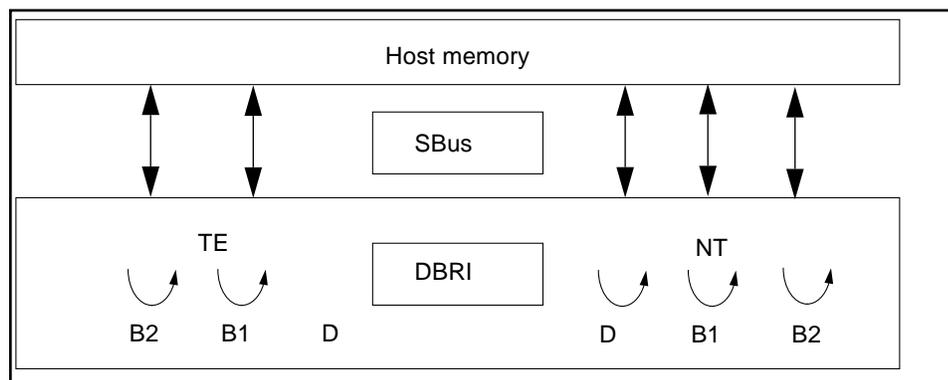

FIGURE 16-1 `isdnctest` Local Loopback Subtest
| Local Loopback Test | The local loopback test checks the initial activation state of the Network Termination (NT) and Terminal Equipment (TE) interfaces to make sure they are deactivated. Then it activates each interface using the “force activation” capability of DBRI. Each interface is put into local loopback mode (See FIGURE 16-1). Data residing in host memory is written to each interface, which loops the data back to itself. The data is then read back into host memory and verified. Each channel, D, B1 and B2 is tested (with the exception of the TE D channel, which cannot be tested in local loopback mode). The local loopback test runs internal to the DBRI chip and does not require an NT-to-TE external loopback connector. |